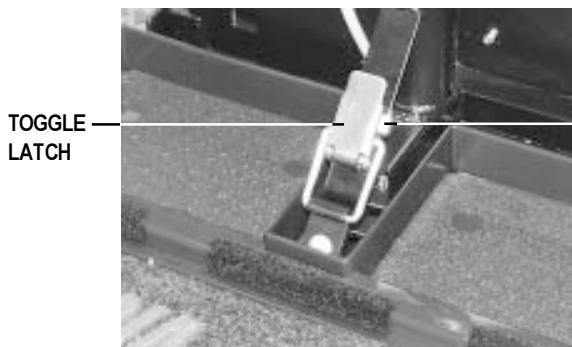

Figure 14. Toggle Latch
1. Push in the toggle latch release button while pulling back the toggle latch. See figure 14.
5. Secure the toggle latch. See figure 14.